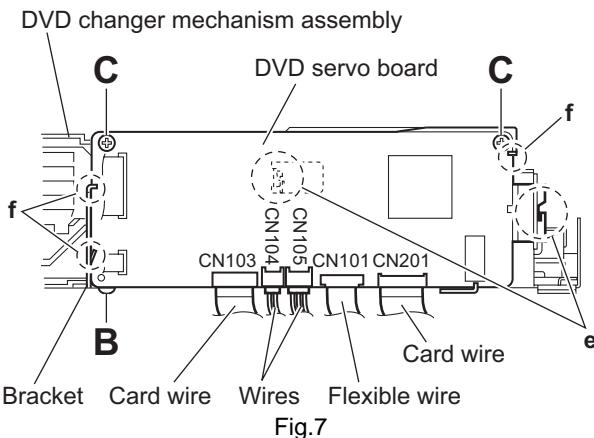

Fig.7
- (2) From the right side of the DVD changer mechanism assembly, disconnect the card wires from the connectors (CN103, CN201) and the wires from the connectors (CN104, CN205) and the flexible wire from the connector CN101 on the DVD servo board. (See Fig.7.)
- (3) Remove the screw **B** attaching the bracket to the DVD changer mechanism assembly. (See Fig.7.)
- (4) Release the two sections **e** of the bracket from the DVD changer mechanism assembly and remove the DVD servo board with the bracket. (See Fig.7.)
- (5) Remove the two screws **C** attaching the DVD servo board to the bracket. (See Fig.7.)
- (6) Release the three sections **f** of the bracket and remove the DVD servo board. (See Fig.7.)